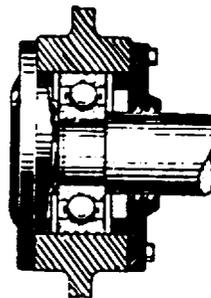

Figure 4-6. Bearing installation precautions.
(2) *Bearings.* The bearings are the most critical mechanical part of a motor. To assure maximum life, bearings should be subjected to careful inspection at scheduled intervals. The frequency of inspection is best determined by a study of the particular motor operating conditions. Bearings are subject to metal fatigue and will eventually wear out even though they are correctly applied, installed and maintained. Fatigue failures are characterized by flaking of the race surfaces along the ball or roller. Fatigue is a gradual process, which is dependent upon load and speed and usually is made apparent in its early stages by an increase in the operating temperature, vibration or noise level of the bearing. Bearing failures not attributed to fatigue failure are usually classified as premature. The majority of these premature failures are caused by the following: incorrect bearing type; misalignment of the motor or load; misalignment or improperly installed bearing; rusting during storage; preloading or improper end-play adjustment; excessive thrust or radial force; axial indentations; improper lubrication and entrance of contaminants into bearing. Follow manufacturer's instructions and use lubricants as specified. When using greases, store in clean containers, handle with clean paddles or use a grease gun and keep containers covered. Do not overfill bearing housings. Overfilling contributes to heat build-up, damaged seals, leaks and collecting of dirt. Overheating is particularly true of bearings running at high speeds. Machines that are normally idle for long periods should be exercised on a scheduled basis. Exercising will keep the oil circulated, reduce condensation within the housing and lessen the chances of flat spots developing on the bearing races, balls or rollers. Inspect seals and vents regularly. Periodic maintenance services of bearings involves keeping a bearing dry, covered, clean and lubricated as well as checking operating temperature. A clean bearing is particularly critical because dirt means damage. It is therefore important to remember the following when cleaning bearings (fig 4-6):